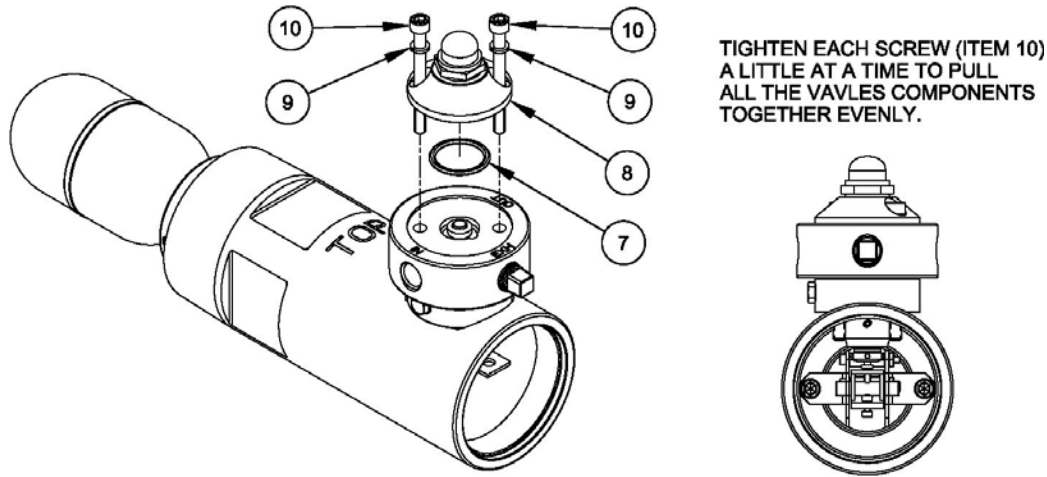

Figure 4
3. Insert the o-ring (item #7) into the o-ring groove on the bottom of the Valve Cap. Note: O-ring groove not visible in figure 4.
4. Place the Valve Cap on the Valve Body and line up the bolt holes as shown in Figure 4.